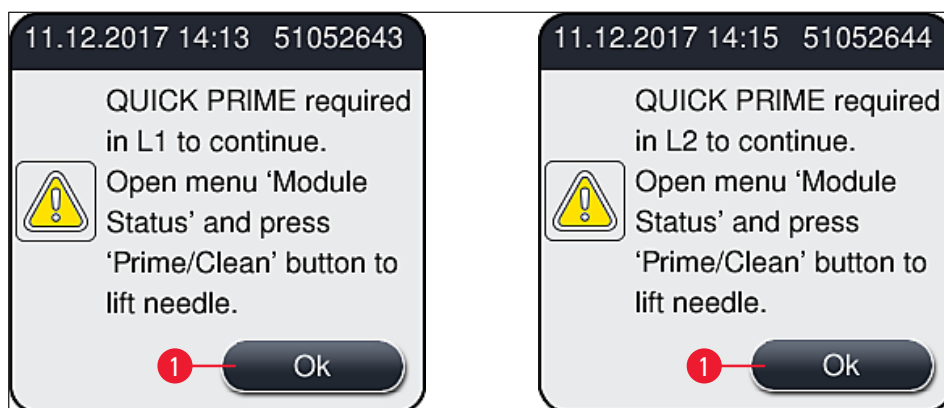

Fig. 51
- ① After completing the initialization phase, the main menu (→ Fig. 19) appears on the screen. and the user is informed (→ Fig. 51) that a **Quick Prime** is required for the coverslip line in use. Acknowledge the messages by pressing **Ok** (→ Fig. 51-1) and follow the instructions that follow (→ P. 122 – 7.3 Preparing the hose system for priming and cleaning).